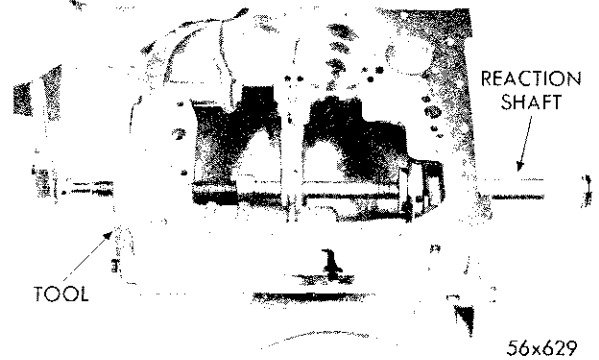

Fig. 57—Removal and Installation of Torque Converter Reaction Shaft
(1) If inspection reveals it is necessary to remove the torque converter reaction shaft, remove the torque converter reaction shaft seal ring (neoprene).
(2) Remove transmission case to reaction shaft bolts and washers.
(3) Using Tool C-3531 press the reaction shaft out of the transmission case (Fig. 57).